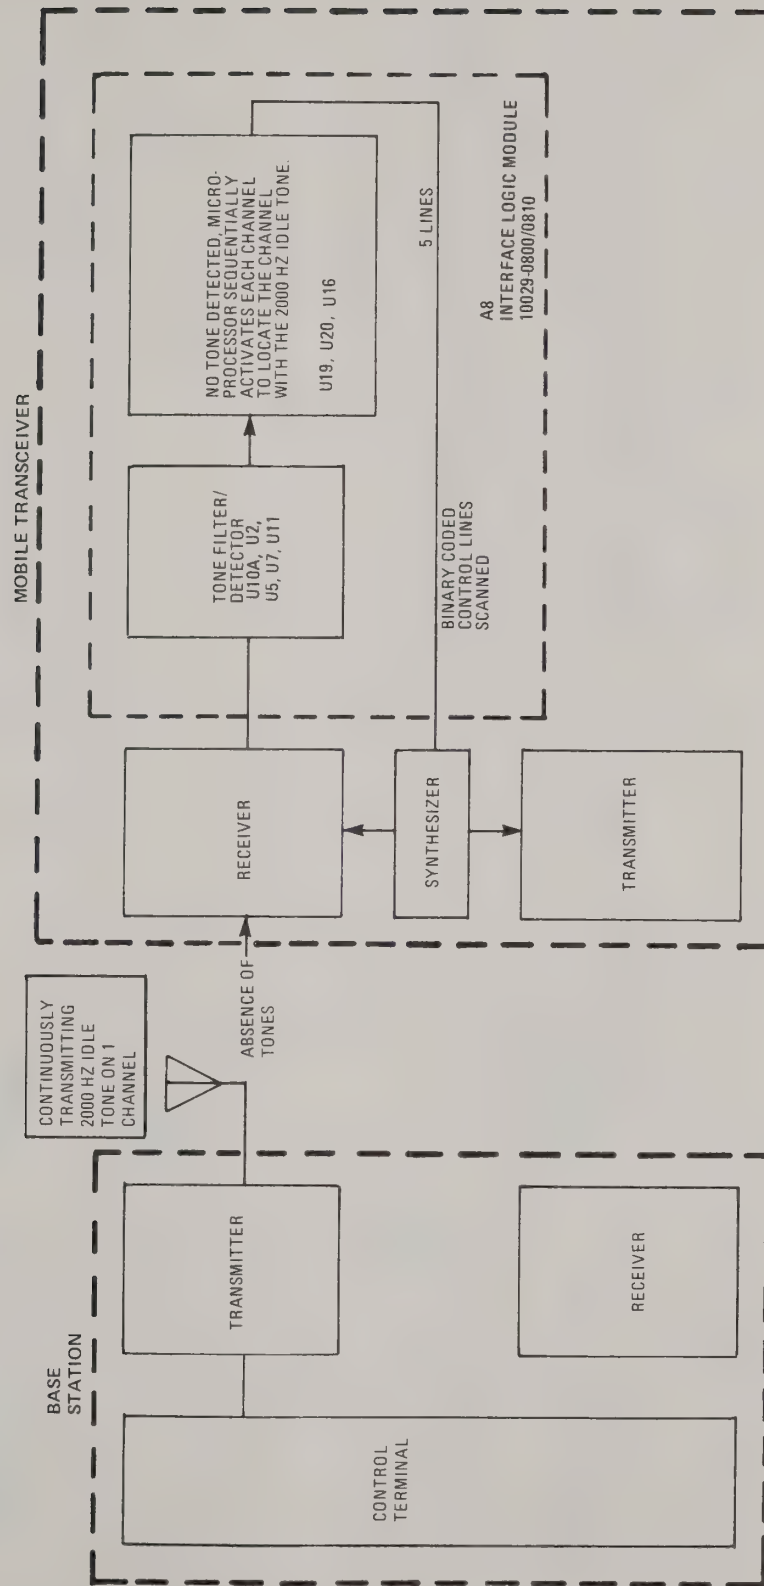

Figure 3. Functional Block Diagram, Channel Scanning
4.12 Figures 3 through 12 illustrate, in the form of block diagrams, the following functions performed by the Interface Logic Module and the Alpha 40 Control Unit.
- (a) Channel scanning (Figure 3)